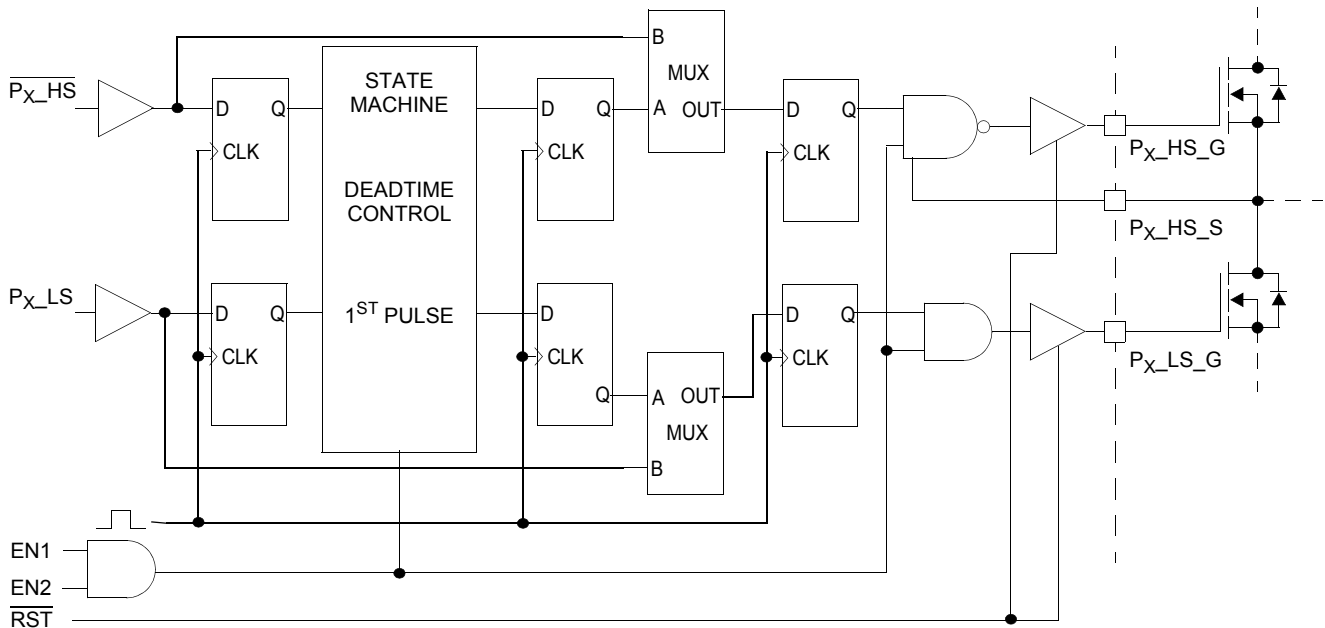

Figure 6. Deadtime Control Delays
- 40. These delays include all logic delays except deadtime. All internal logic is synchronous with the internal clock. The total delay includes one clock period for state machine decision block, an additional clock period for FULLON mux logic, input synchronization time and output driver propagation delay. Subtract one clock period for operation in FULLON mode which bypasses the state machine decision block. Synchronization time accounts for up to one clock period of variation. See Figure 6.